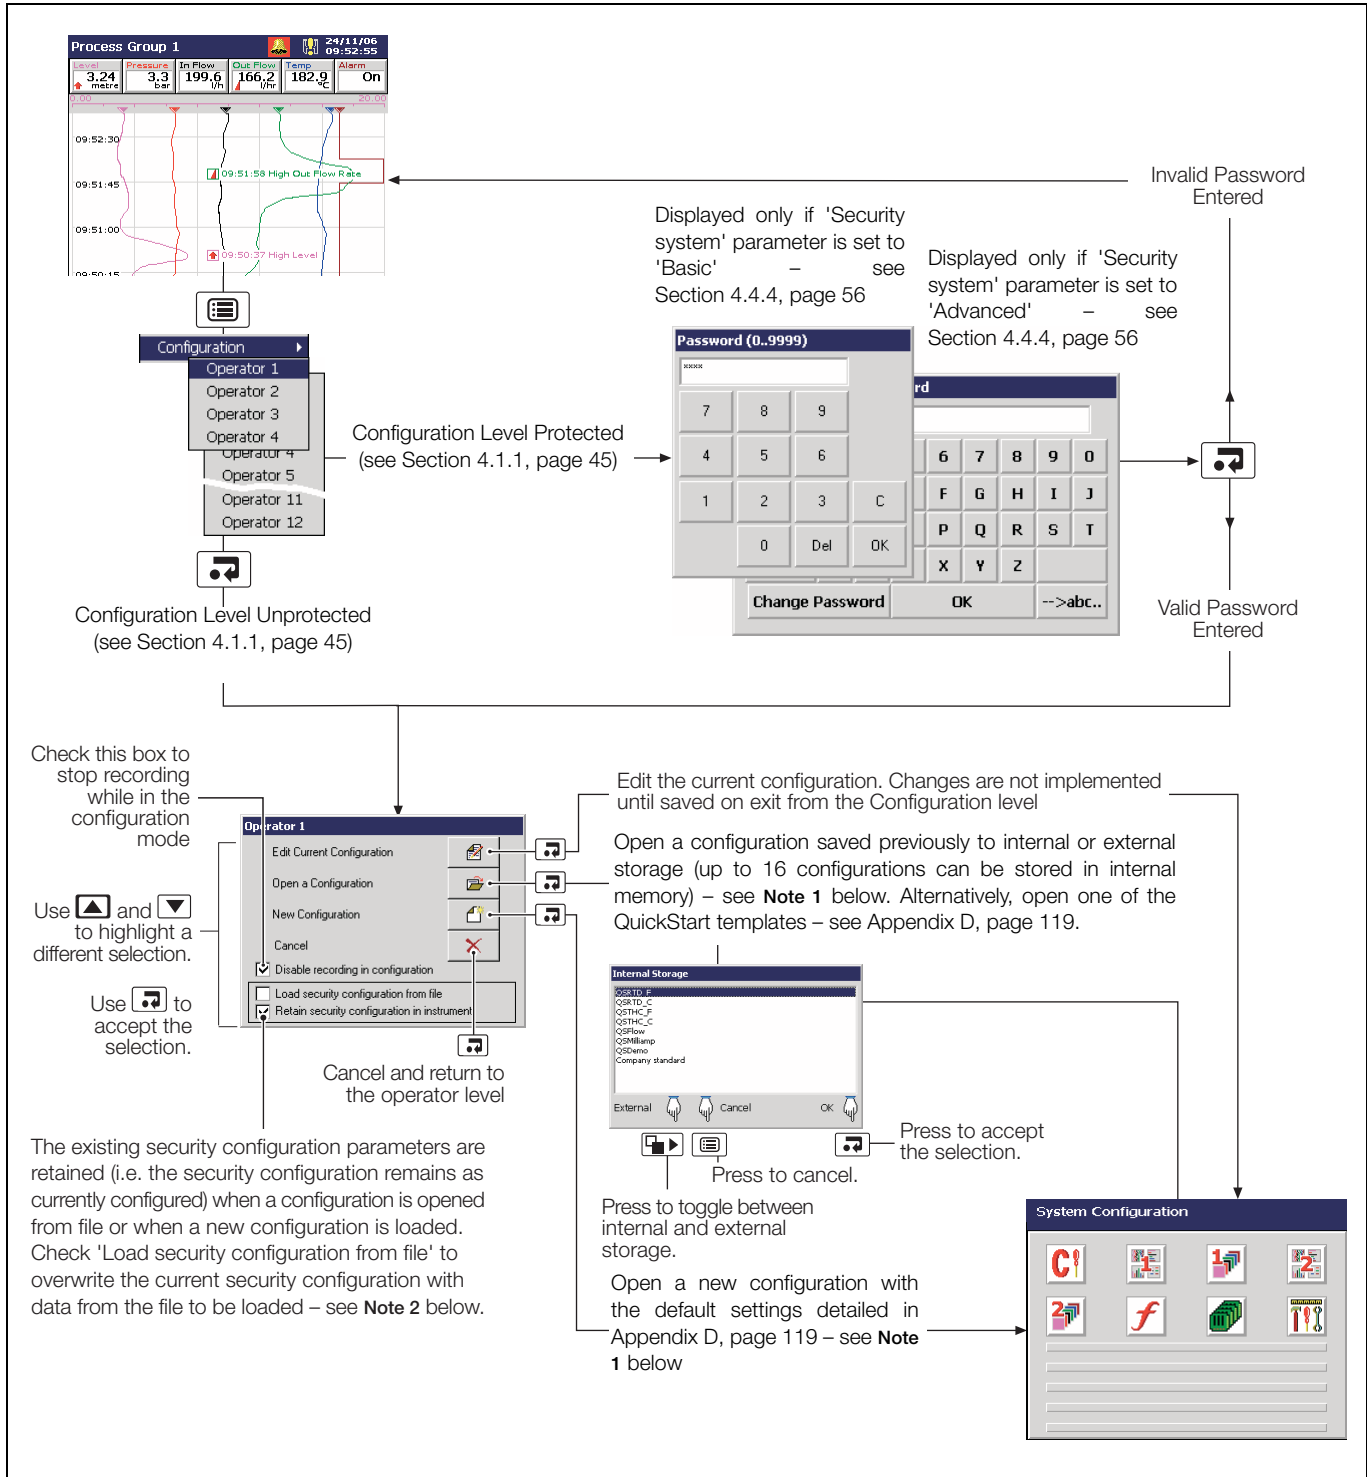

Fig. 4.1 Accessing the Configuration Level
The Configuration level cannot be accessed until the correct password has been entered – see Fig. 4.1, page 46.
#### 4.1.2 Configuration Level Access – Figs. 4.1 and 4.2
- Access the Configuration Level – see Fig. 4.1, page 46.
- Make changes to parameters as detailed in Figs. 4.1 and 4.3.